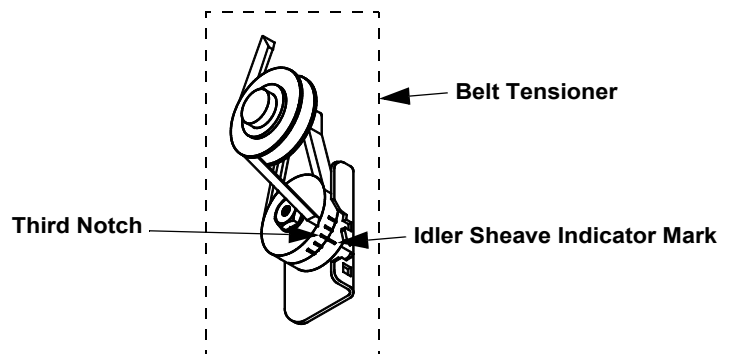

Figure 23. Idler Sheave Indicator Mark
- Check Belt Tension. The Belt should be tensioned just tight enough to minimize Belt slippage. Over tensioning the belt will cause premature Belt and Bearing wear. With a new Belt the Idler Sheave indicator mark should line up with the third notch in the Tensioner Housing (See **Figure 23**).